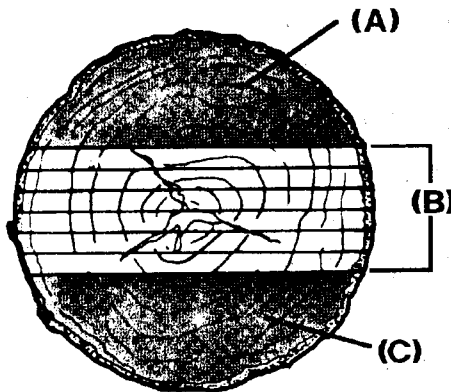
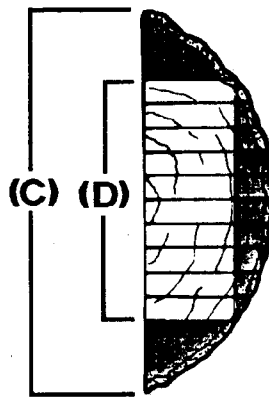
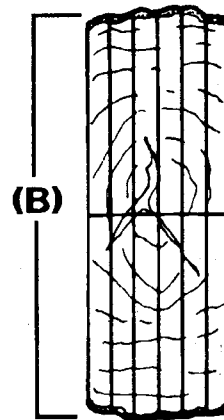
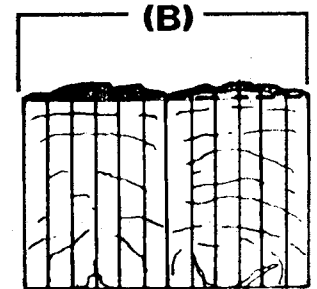

FIG 1-3
FIG 1-4
FIG 1-5
FIG 1-6
Figure 1-3 shows an end view of a log we will say is 17 inches in diameter. The first cut is made 11 1/2 inches above the bed. The top cant (A) is laid to the side and six cuts of one inch (B) are made and those boards are laid aside. The remaining cant (C) is rotated 90 degrees (See Figure 1-4) and boards are cut starting 13 inches above the bed down to 3 inches (boards D). These boards are acceptable as commercial grade quartersawn lumber. The two boards above and below are plain sawed. The boards (D) are then placed vertical and edged. Cant (A) is processed in like manner. Boards (B) are then mounted vertically, sliced through the center (Figure 1-5), and edged (Figure 1-6). Using this approach, 60 to 70 percent of a good log can be converted into the most valuable of lumber, rapidly and effectively.